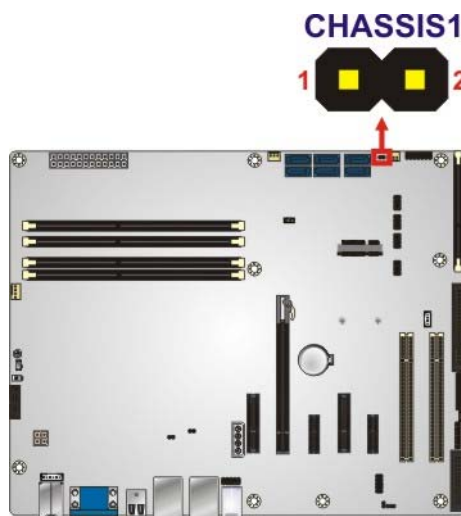

Figure 3-6: Chassis Intrusion Connector Location
- CN Location:** See **Figure 3-6**